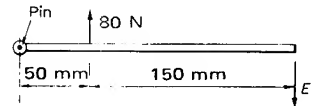

Fig. 2.46
3. Fig. 2.46 shows a simple lever. Find the effort E needed to balance the load of 80 N. What is the force on the pin?